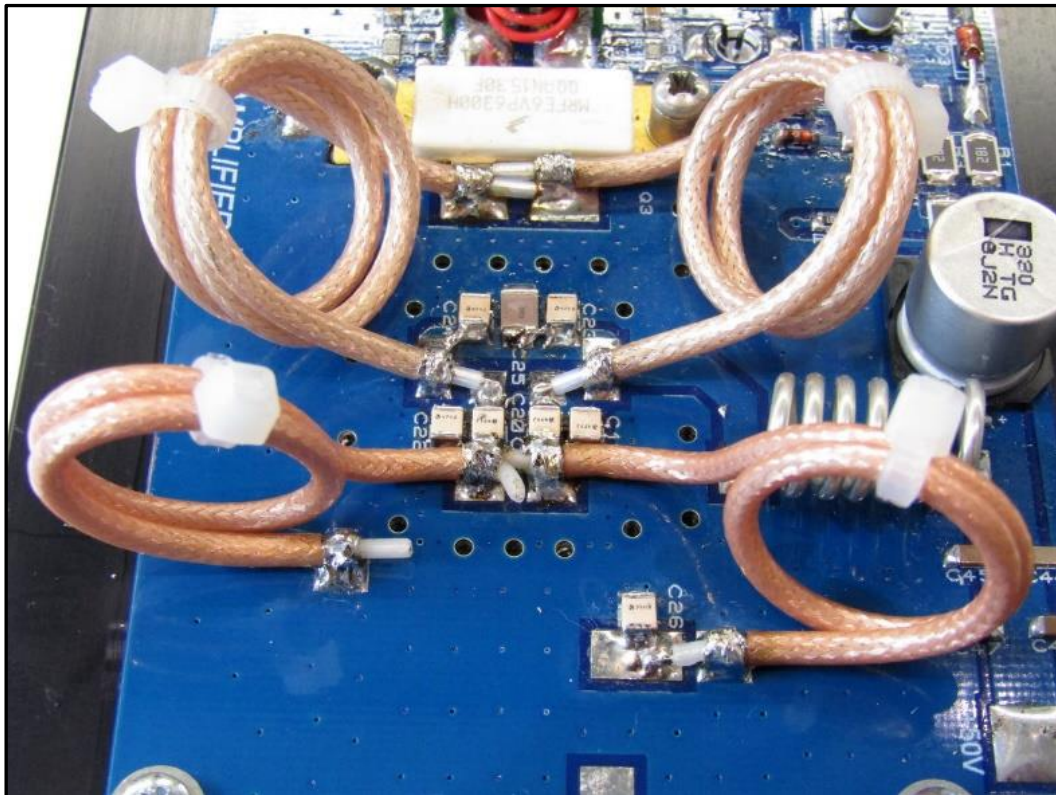

Figure 12: Z3 and Z4 position.
15. Fold back the earth braid on the second piece of RG316 and solder but do not strip and prepare the centre conductors. Solder one end of the coax at the pad nearest C21 (this is also the centre conductor of the coax mounted in step 14). Solder the other end to the isolated ground pad below and to the right of C22. When this step is finished you should only have coax earth braid connected between C21 and ground, forming Z3. Cable-tie and secure the two coax sections as shown in figure 12.